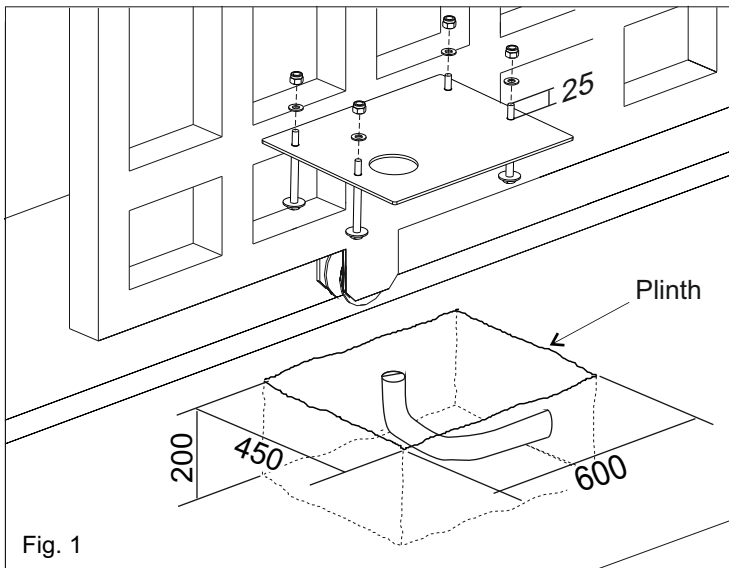

Fig. 1
- Have a mounting plate manufactured to the dimensions shown in Fig. 1. The plate will require to have concrete holding into which the foundation plate.